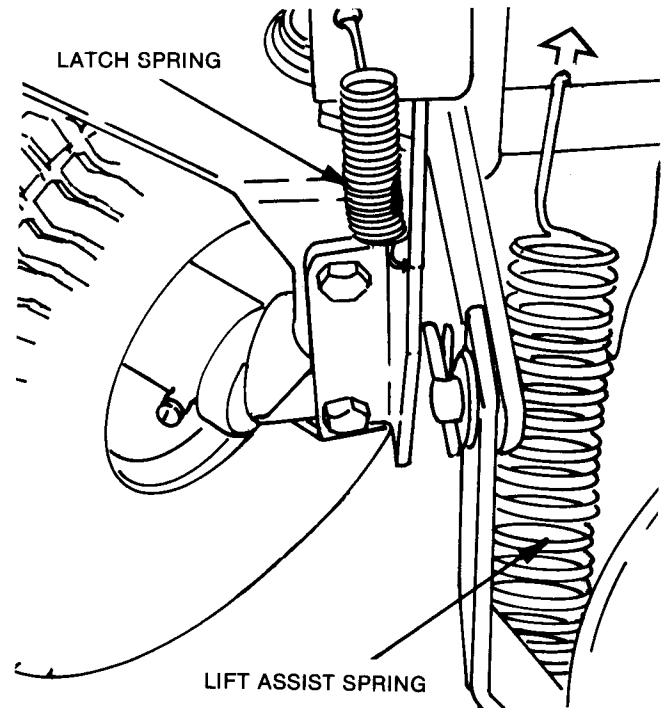

FIGURE 10 - UNHOOK LIFT ASSIST SPRING
STEP 7: Use the pliers to unhook the lift assist springs from the top rod of the lift handle assembly (Figure 10).